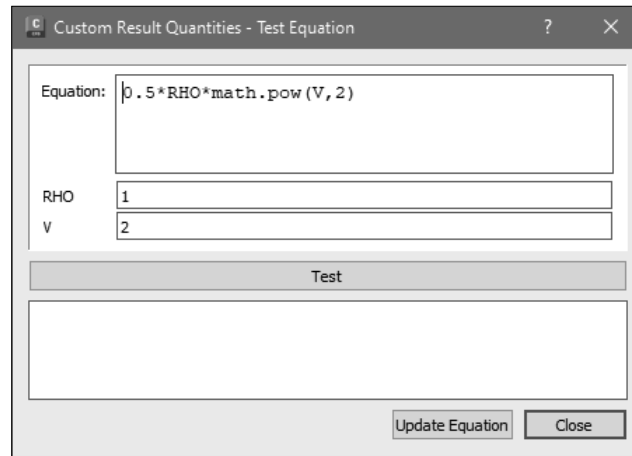

Figure-101. Custom Result Quantities Test Equation dialog box
- After specifying the parameters, click on the **Test Equation** button from **Custom Result Quantities** dialog box. The **Custom Result Quantities - Test Equation** dialog box will be displayed; refer to Figure-101.